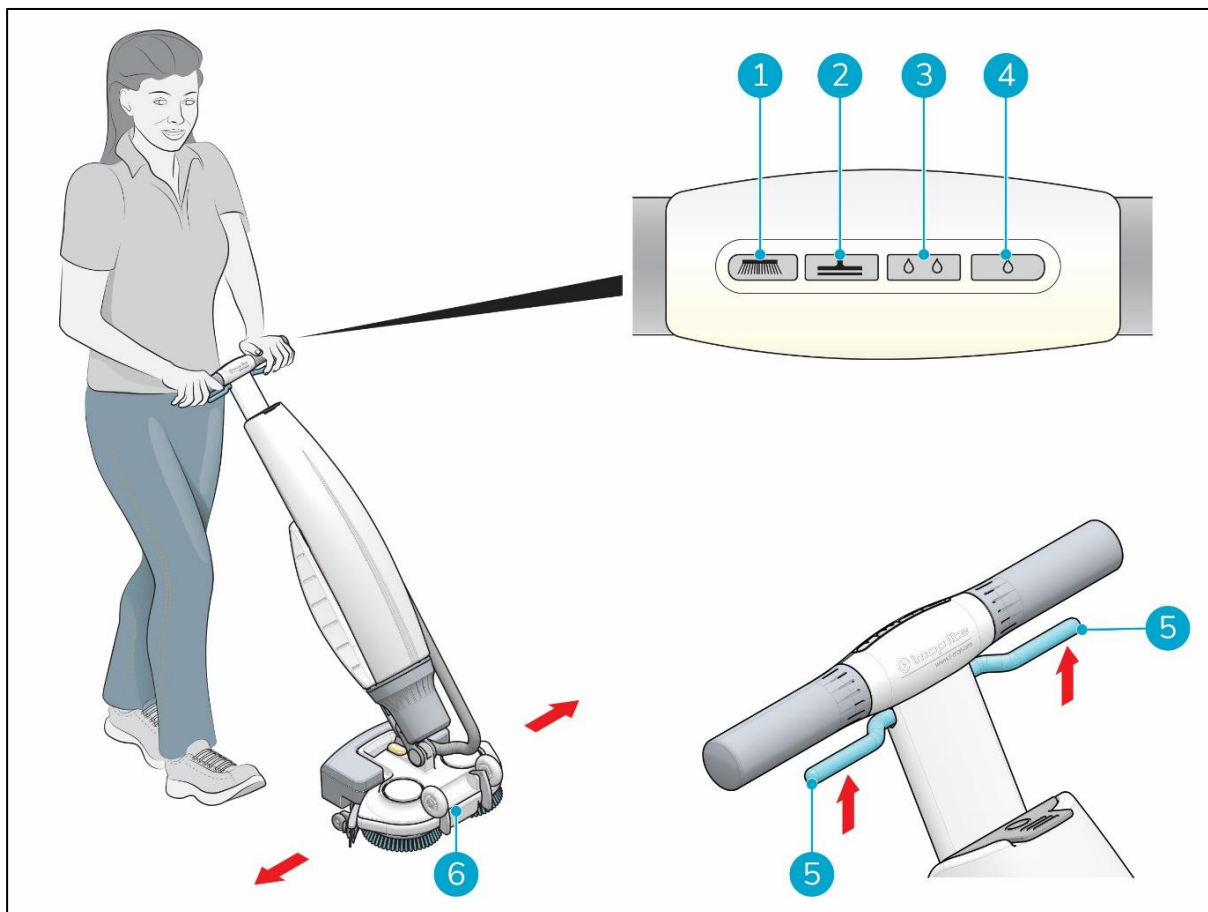

Figure 17
6. Choose your cleaning mode via the buttons on the control panel (Figure 17, pos 1 to 4). You can select the options independently or combined.
8. Squeeze the trigger on the handle (Figure 17, pos 5). This will also start the i-mop Lite
11. Steer by gently turning the handle left or right to move the scrub deck (Figure 17, pos 6).
12. Releasing the trigger (Figure 17, pos 5) will immediately stop the i-mop Lite. The vacuum motor will stop after 3 seconds.